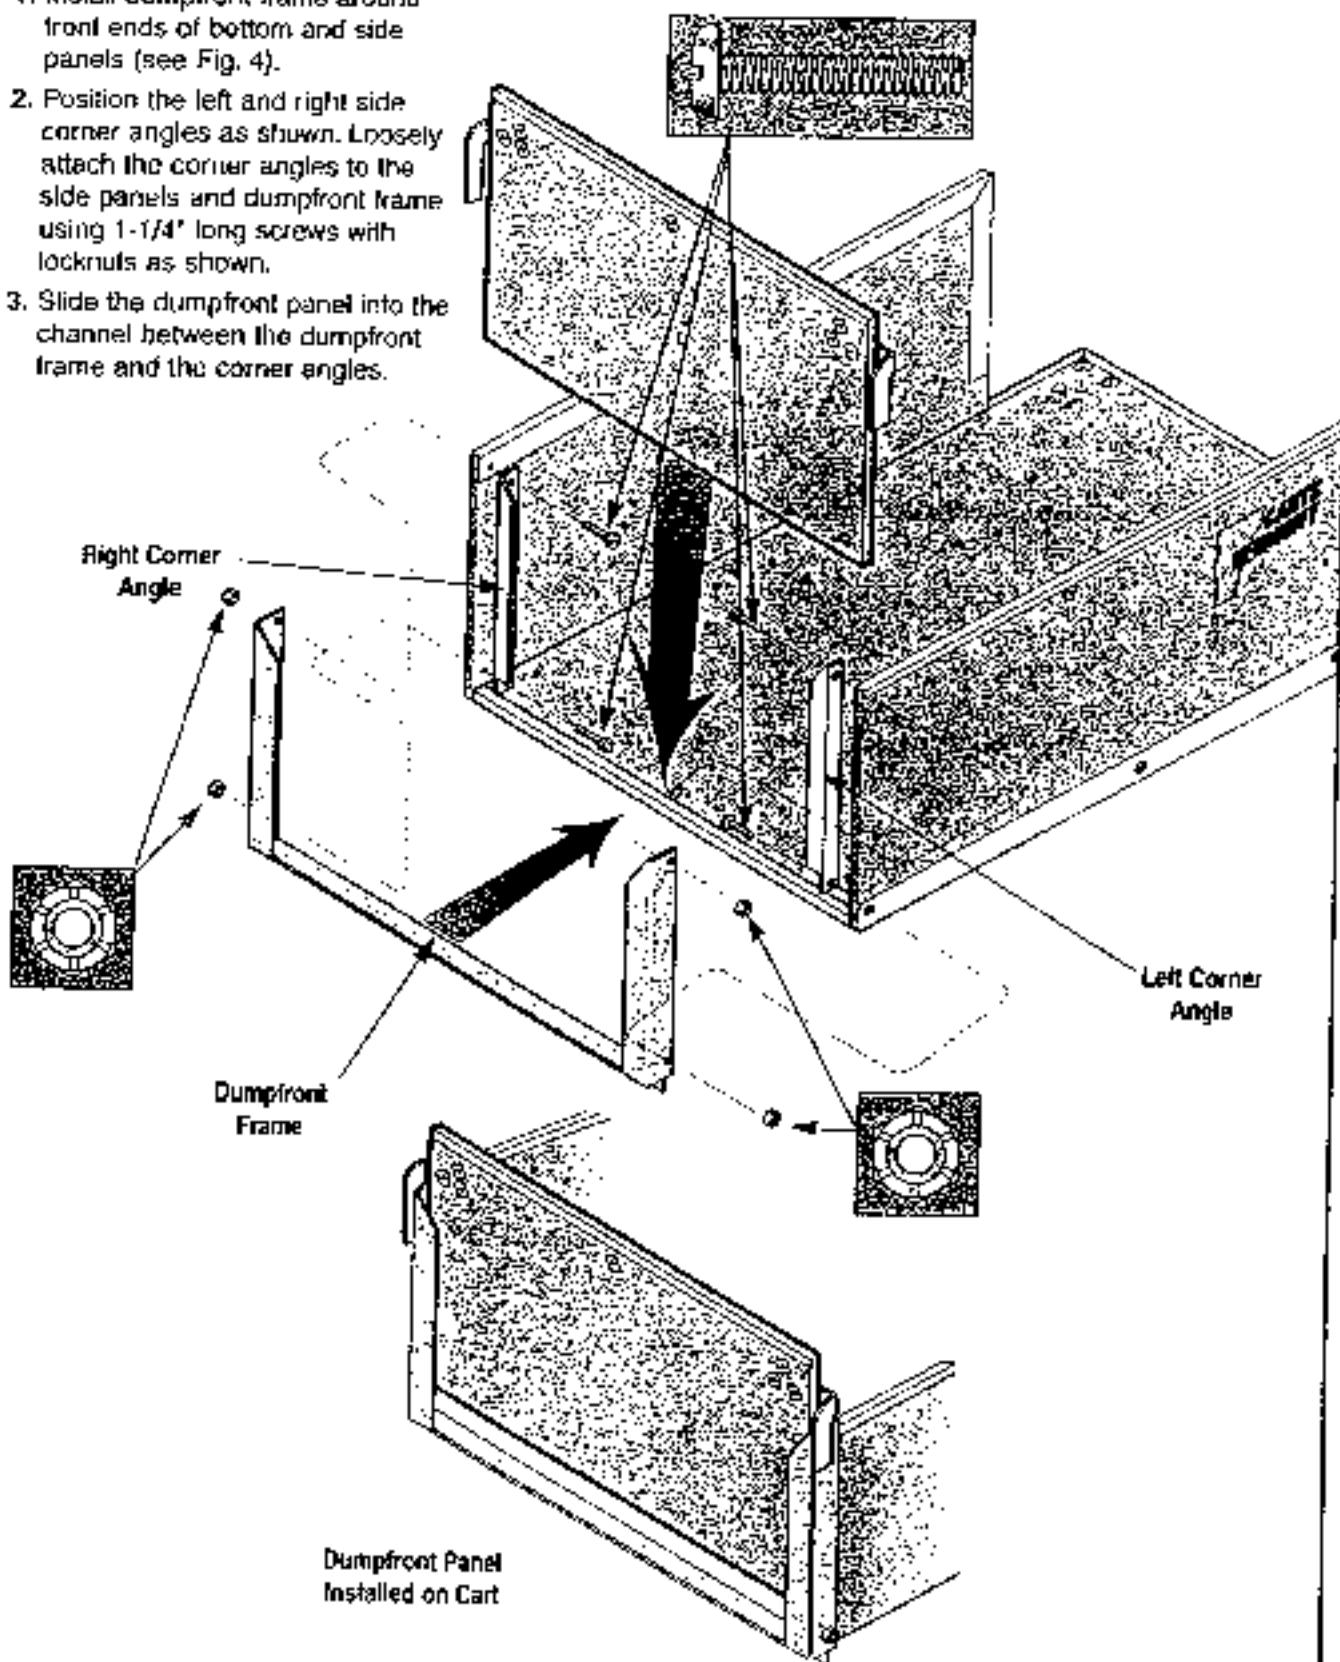

**Figure 3**
1. Position bottom panel as shown in Fig. 3. Note "Front" and "Rear" of bottom panel.
2. Position left side panel (panel with logo) on left side of bottom panel with logo facing to outside. Loosely install a 1/2" long screw into T-nut in panel, at location shown in Fig. 3.
3. Position right side panel as shown in Fig. 3. Note that the wide edge of the edge protector faces in, and the angled end of the edge protector is at the rear. Loosely install a 1/2" long screw through bottom angle and into T-nut in panel, as shown in Fig. 3.